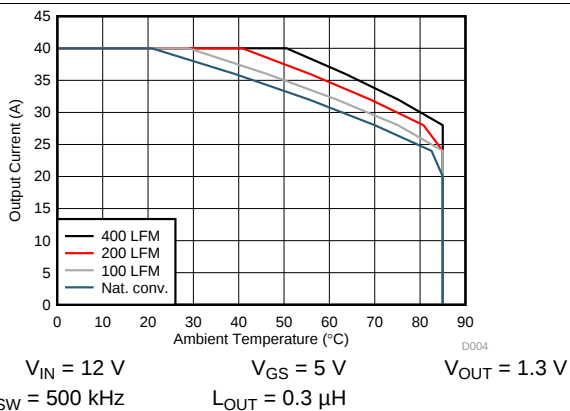
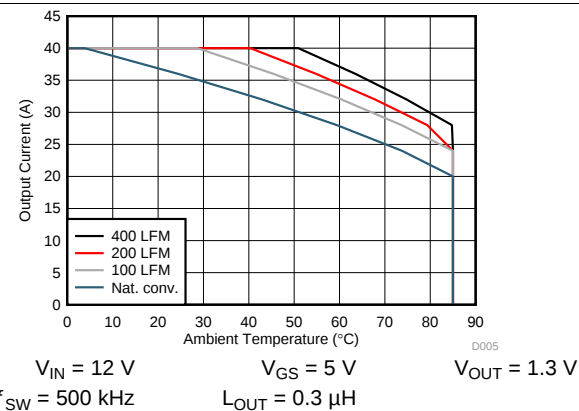
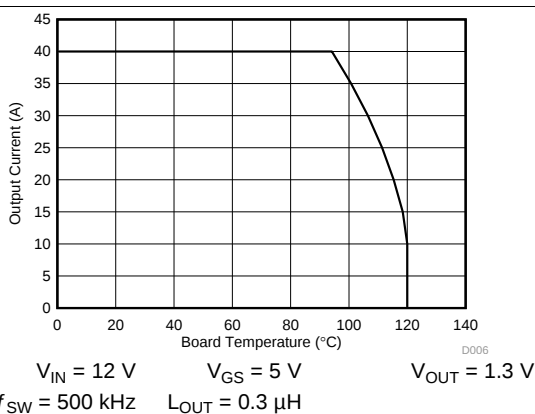

Figure 3. Safe Operating Area (SOA) – PCB Vertical Mount
Figure 4. Safe Operating Area (SOA) – PCB Horizontal Mount
Figure 5. Typical Safe Operating Area (SOA)
(1) Equivalent based on application testing. See Equivalent System Performance section for details.
$T_J = 125^\circ\text{C}$, unless stated otherwise. The typical power block system characteristic curves Figure 3, Figure 4, and Figure 5 are based on measurements made on a PCB design with dimensions of 4 in (W) $\times$ 3.5 in (L) $\times$ 0.062 in (H) and 6 copper layers of 1-oz copper thickness. See Application and Implementation for detailed explanation.
The SOA curves in the CSD87350Q5D data sheet provides guidance on the temperature boundaries within an operating system by incorporating the thermal resistance and system power loss. **Figure 3** to **Figure 5** outline the temperature and airflow conditions required for a given load current. The area under the curve dictates the safe operating area. All the curves are based on measurements made on a PCB design with dimensions of 4 in (W) × 3.5 in (L) × 0.062 in (T) and 6 copper layers of 1-oz copper thickness.